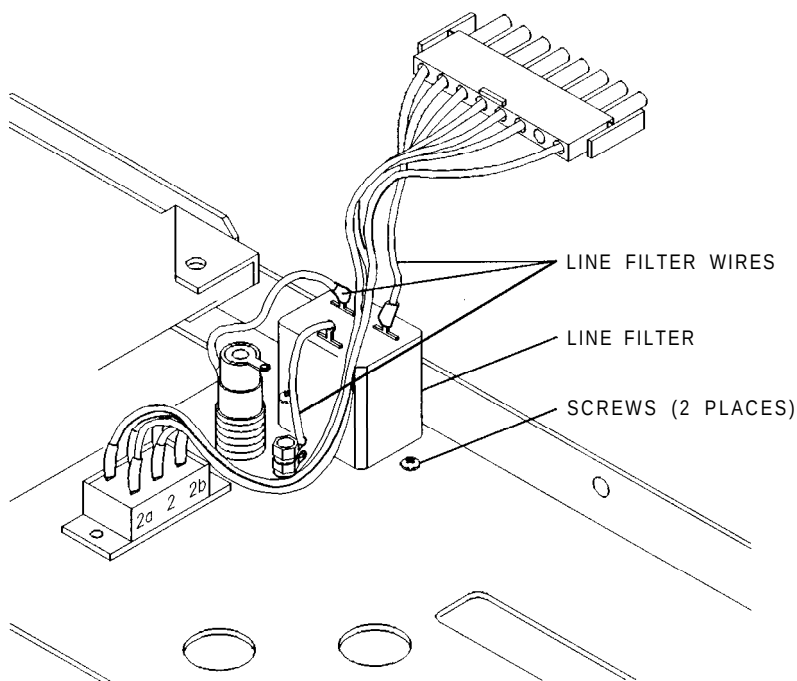

Figure 7-19. Line Filter Removal
1. Unsolder the three wires attached to the line filter. Refer to Figure 7-19.